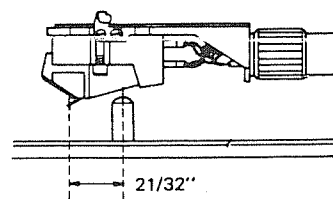

Fig. 3
- Move the tone arm over the turntable shaft and move the carriage back or forth to obtain a space of $21/32''$ between turntable shaft and stylus tip. (Fig. 3)